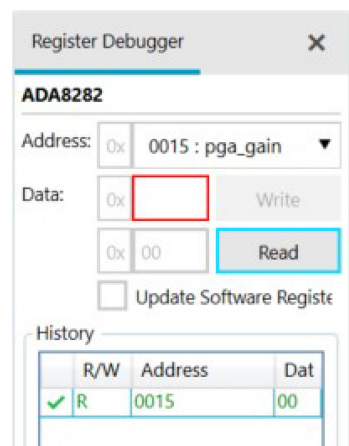

Figure 9. Reading Data from the ADA8282
2. Click **Read** (see Figure 9).